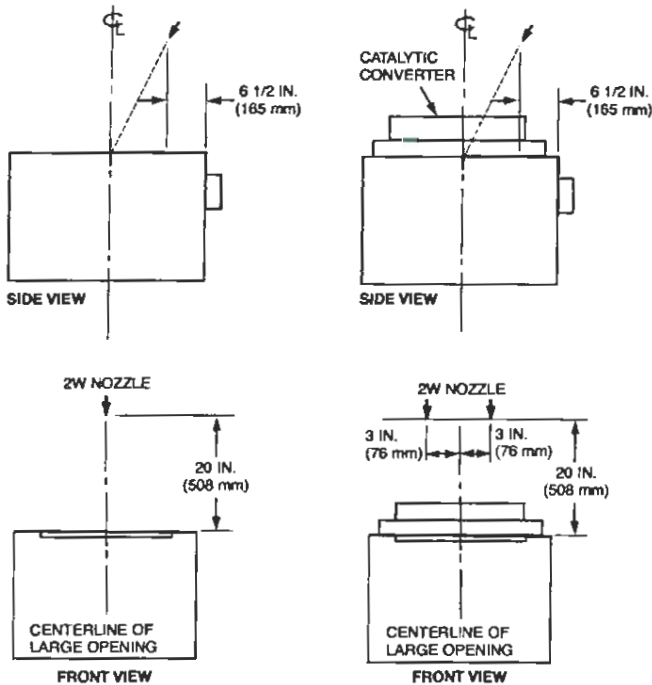

FIGURE 81a
- **Nozzle Quantity/Type:** (1) One 2W nozzle, Part No. 419337.
- **Nozzle Height:** 20 in. (508 mm) above top of appliance. See Figure 81a.
- **Nozzle Location:** 6 1/2 in. (165 mm) back from front edge of appliance. See Figure 81a.
- **Nozzle Aiming Point:** Aimed at center of opening. See Figure 81a.
- **Nozzle Quantity/Type:** (2) Two 2W nozzles, Part No. 419337.